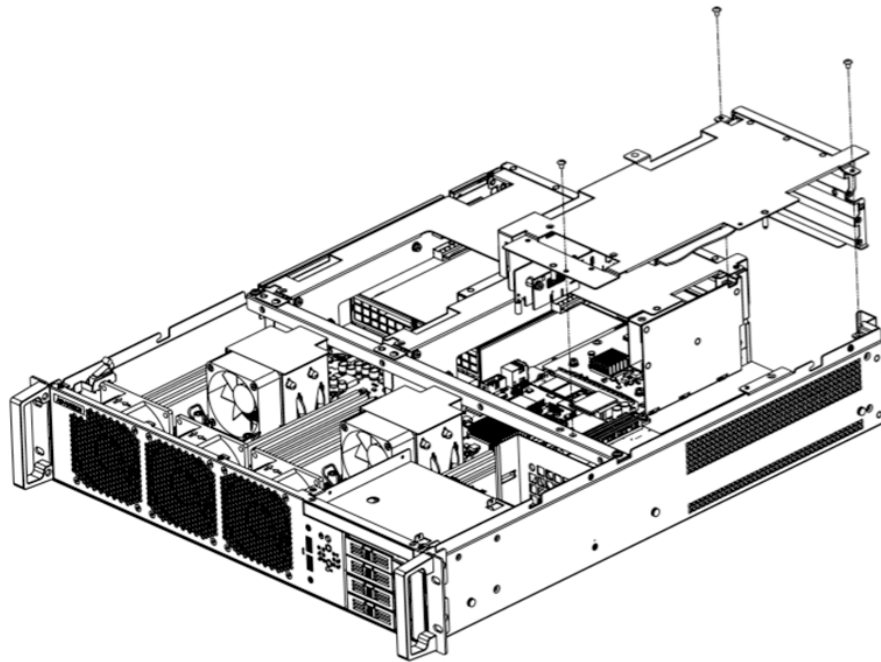

Figure 2.11 Assembly of Riser Card-1 Module/安裝Riser Cage-1模块/安裝Riser Cage-1 模組
4. Attach with 3 screws. (See Figure 2.11)
4. 并在其上方鎖3顆螺丝进行固定（如图2.11所示）